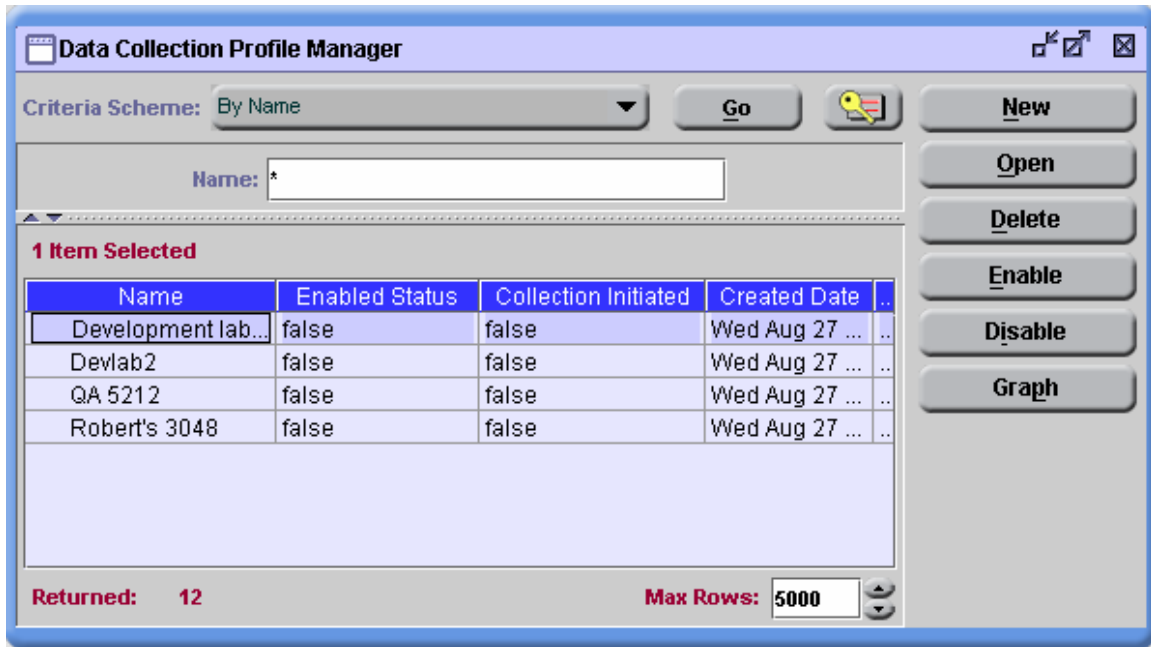

Figure 7. Collection Profile selection screen.
11. You now have a saved profile ready to begin collecting statistical samples. Figure 7 shows four profiles that have been saved. The number of profiles you can save is limited only by your system resources.